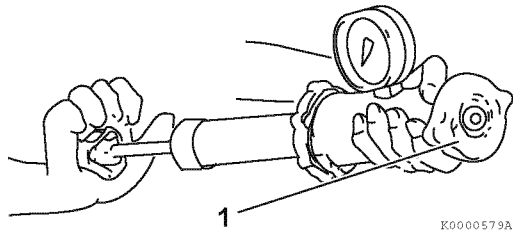

Figure 8-11
1. Check for proper operation of the radiator cap. Install the radiator cap (1, **Figure 8-11**) on a cooling system tester.